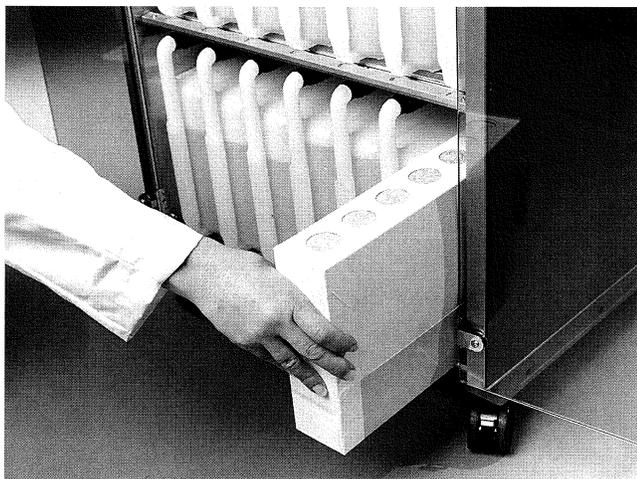

Figure 2-9
7. Remove the cartridge of activated carbon from its plastic bag. With the vent holes to the top and the connecting hole towards the instrument, slide the cartridge into the station labeled Activated Carbon (Figure 2-9). When a slight resistance is felt, push firmly on the cartridge to ensure a proper connection.